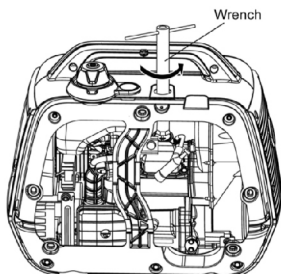

Fig 15C
4. Use the wrench to remove the spark plug. (Fig. 15C).